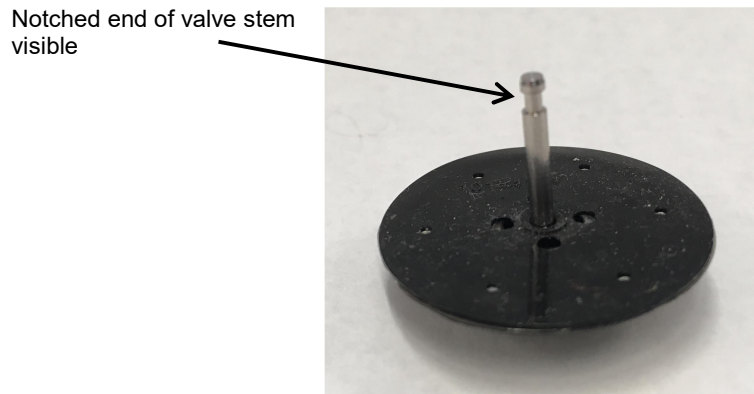

Figure 3
- b. If the smooth end of the valve stem is inserted in the valve seat, the notched end of the valve stem will be visible as in Figure 3.